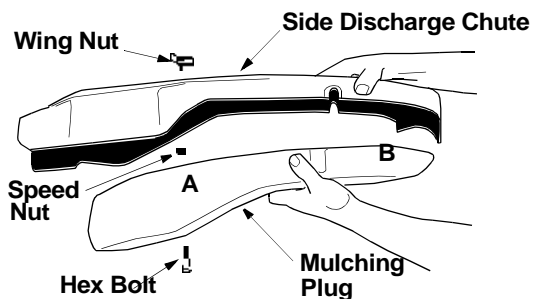

Figure 5
- Put two hex bolts through the mulching plug at the respective openings. See Figure 5.
- Place wing nut on each of the hex bolts and thread a few turns. See Figure 5. Check that the mulch plug is aligned correctly within the discharge chute.